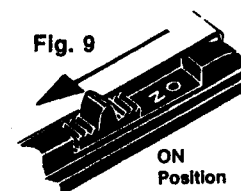

Fig. 9
6. Push chart drive switch to "ON" position exposing the word "ON". Make sure switch clicks into detent position which locks it into place. See fig. 9.